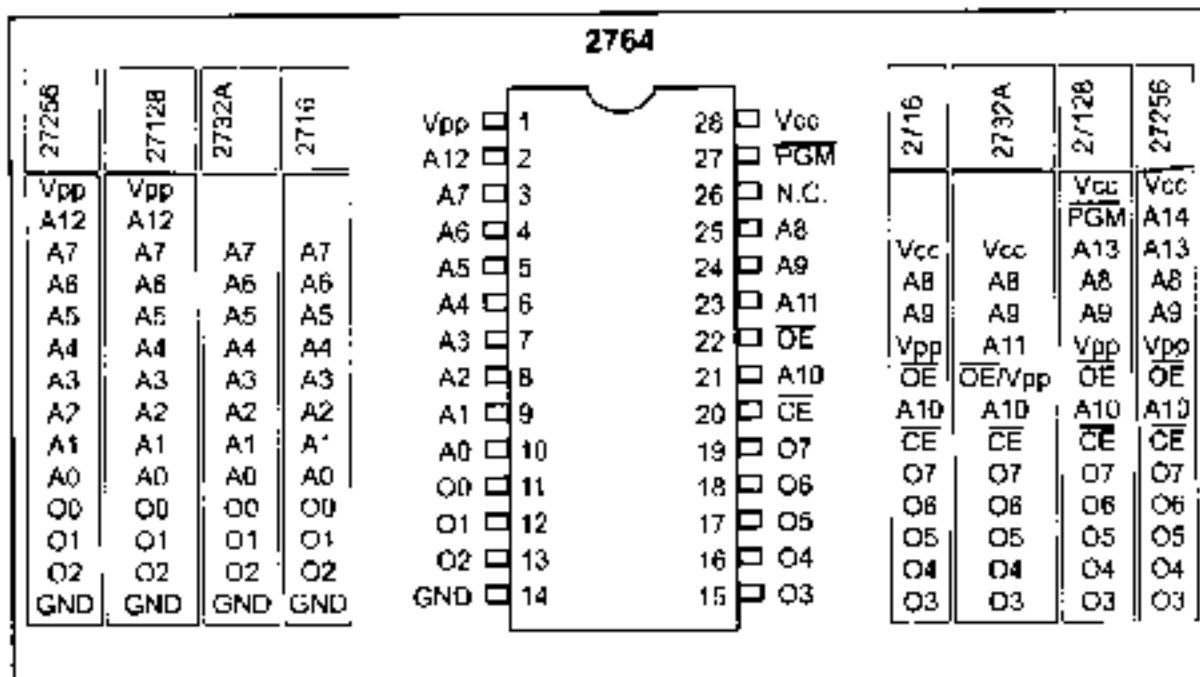

Figure 0-10. Pin Configurations for 27xx ROM Family
EPROM was invented to allow making changes in the contents of PROM after it is burned. In EPROM, one can program the memory chip and erase it thousands of times. This is especially necessary during development of the prototype of a microprocessor-based project. A widely used EPROM is called UV-EPROM, where UV stands for ultraviolet. The only problem with UV-EPROM is that erasing its contents can take up to 20 minutes. All UV-EPROM chips have a window through which the programmer can shine ultraviolet (UV) radiation to erase the chip's contents. For this reason, EPROM is also referred to as UV-erasable EPROM or simply UV-EPRoM. Figure 0-10 shows the pins for UV-EPROM chips.